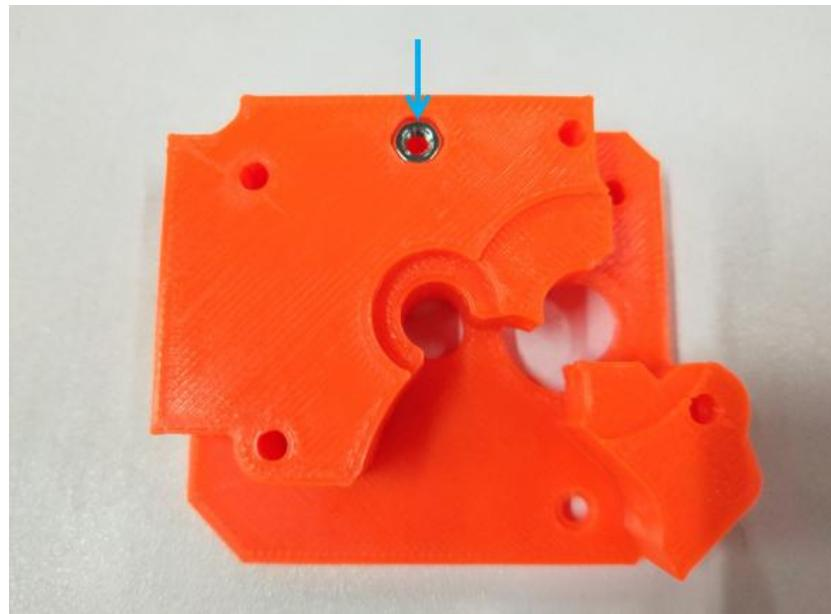

Figure 2.3.2
**Step 2-3-2:** As shown in Figure 2.3.2, insert an M3 hex nut into the hex groove on the MINI-extruder-rear.